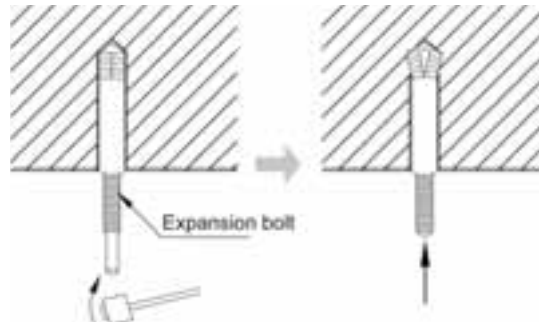

Fig 4.1.5
- 2) Insert the M10 expansion bolt into the hole and drive the nail into the bolt, as shown in Fig. 4.1.5.